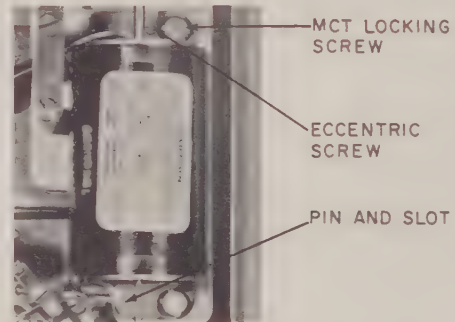

FIGURE 11 - MCT Locking Screws and Eccentric
b. Loosen three MCT locking screws (Figure 11). Set MCT core in about midtravel position by turning eccentric screw to shift MCT locking plate. (Position of MCT core can be determined by observing position of pin in slot at base of MCT.) Tighten locking screws.